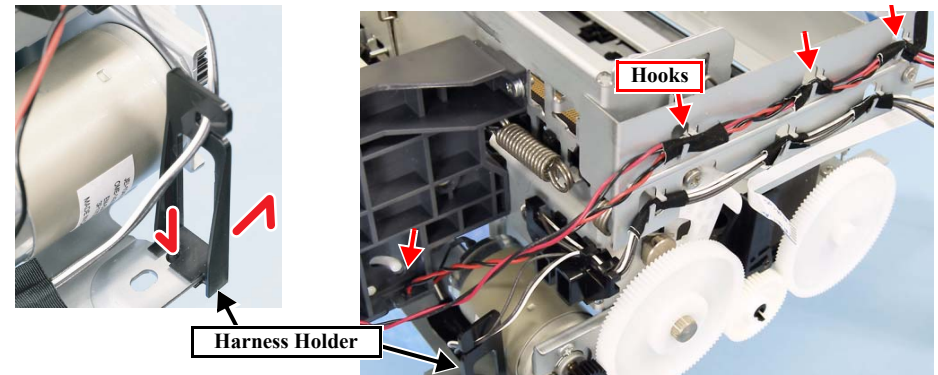

Figure 4-57. Removing the Harness Holder
5. Remove the Harness Holder. (Fig. 4-57)